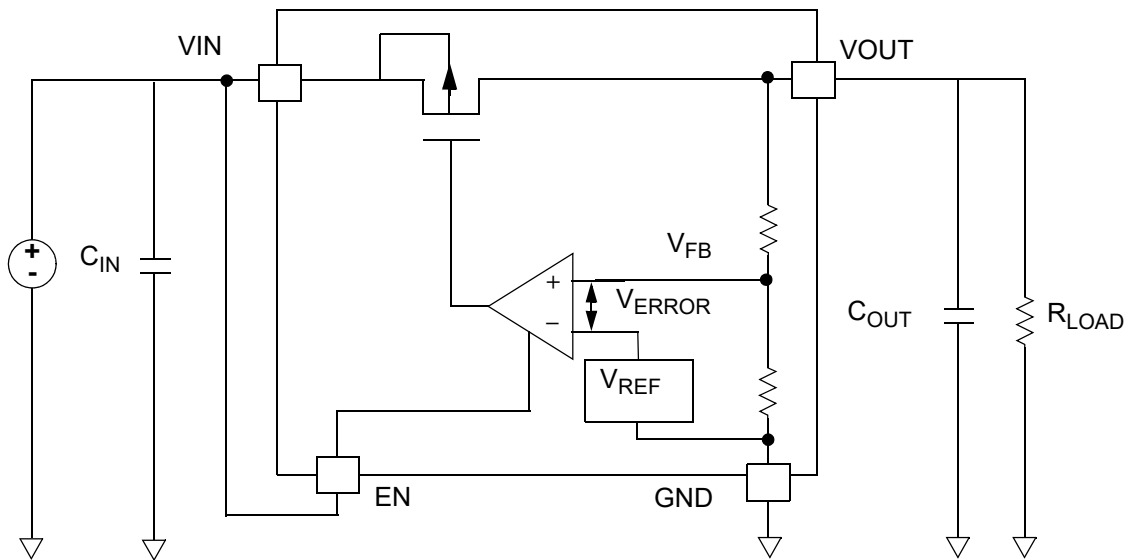

Figure 35. Simple PMOS LDO Regulator Block Diagram
Like the majority of LDOs with a PMOS pass transistor, the RAA21440x family of DC output voltage ( $V_{OUT}$ ) regulation can be modeled with a voltage reference ( $V_{REF}$ ), PMOS pass-transistor, error amplifier, and feedback (FB) resistors as shown in Figure 35.